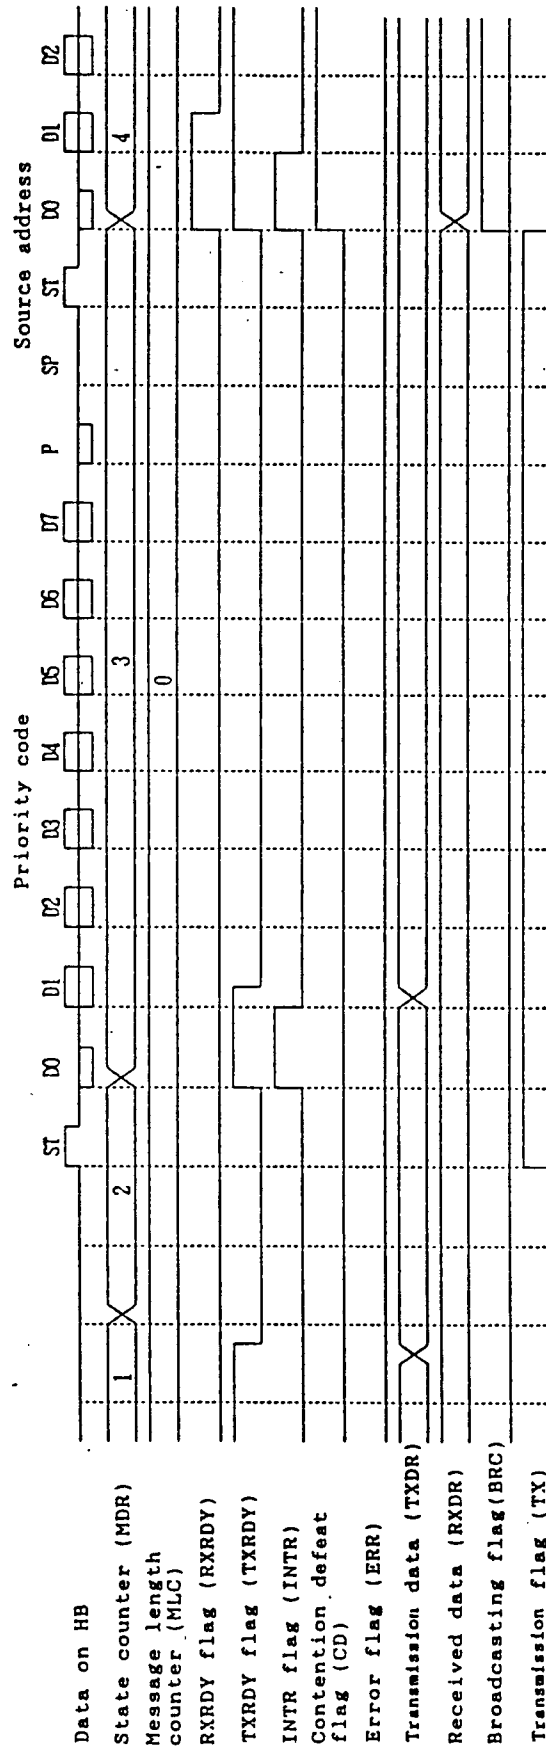

Figure 4.42 Contention defeat
Figure 4.42 shows contention defeat. This figure shows that contention defeat occurs in the priority code. The contention defeat flag (CD) rises when ST of the source address changes to D0. Upon contention, the transmission flag (TX) is set to 'L' at the position where the contention defeat flag (CD) rises (ST → D0) as shown in this figure. In this case, if data is written in and after the source address, the data is treated as the priority code of the next packet. The receiving operation then follows.